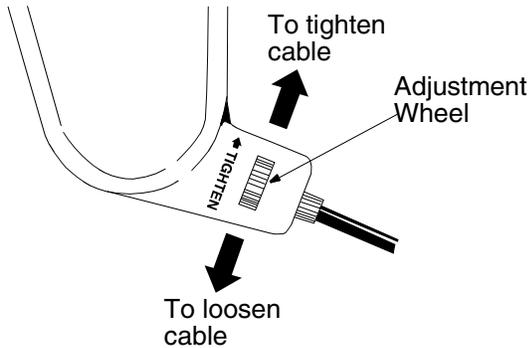

Figure 23
- To resolve the above problems, rotate the adjustment wheel with your fingers: clockwise to tighten the cable, and counter-clockwise to loosen the cable. See Figure 23 .